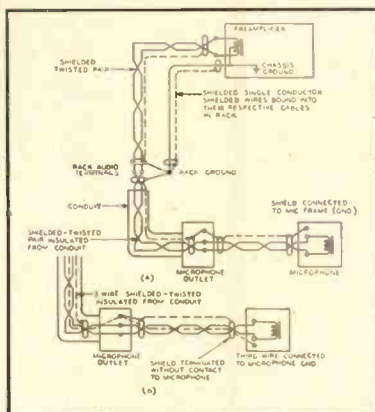

Fig. 5. Typical wiring diagram to show microphone grounding practices.
is shown at (A) in Fig. 5. In this case two-conductor shielded wire, with insulation over the shield, is used for the conduit run and the microphone cord. The arrangement of (B) shows somewhat better practice in which three-conductor shielded, insulated cable is used for the conduit run and microphone cord. This latter practice removes any ground current from the field.